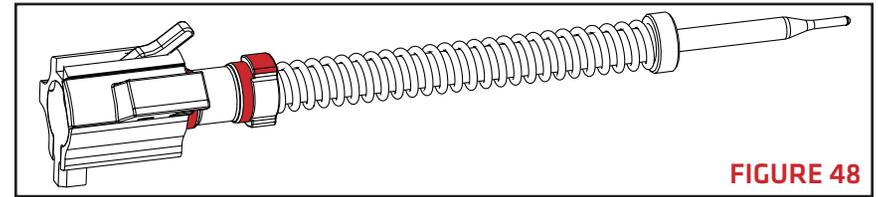

FIGURE 48
7. With the firing pin assembly removed, lubricate the critical surfaces highlighted in red (FIGURE 48).